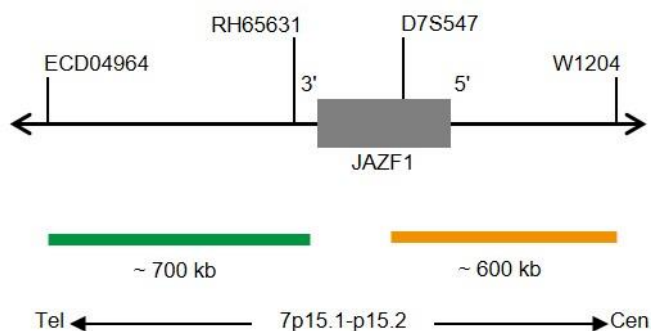

Fig. 1: SPEC JAZF1 Probe map (not to scale)
- ZyGreen (excitation 503 nm/emission 528 nm) labeled polynucleotides (~10 ng/μl), which target sequences mapping in 7p15.2\* (chr7:27,146,601-27,846,497) distal to the JAZF1 breakpoint region (see Fig. 1).
- ZyOrange (excitation 547 nm/emission 572 nm) labeled polynucleotides (~4.5 ng/μl), which target sequences mapping in 7p15.1\* (chr7:28,059,911-28,661,819) proximal to the JAZF1 breakpoint region (see Fig. 1).